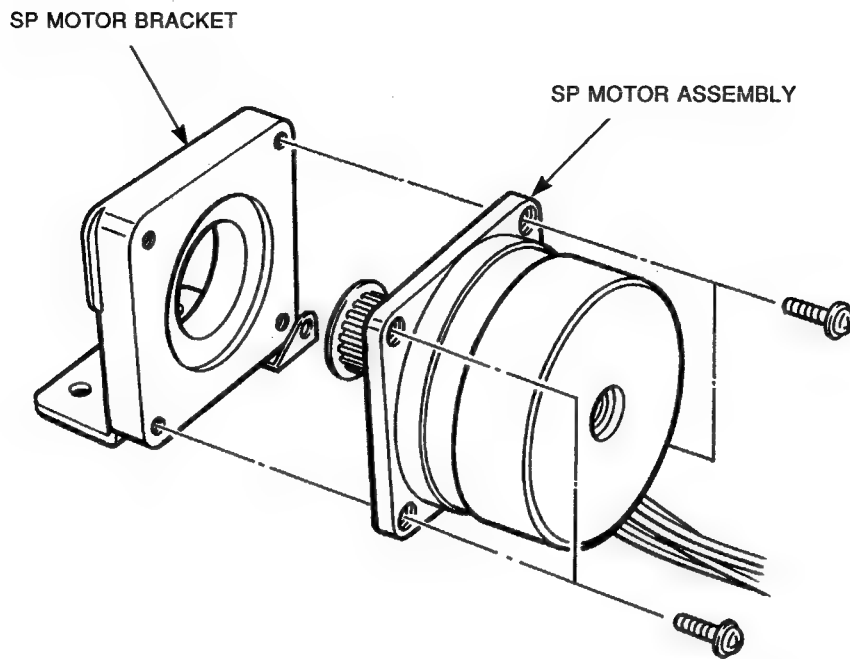

Figure 3-50 SP Motor Assembly
7. Remove the four screws securing the SP motor assembly to the SP motor bracket (see Figure 3-50).